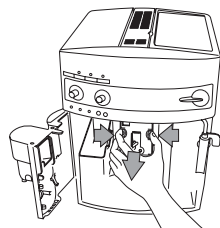

Figure 25
- Press the two red release buttons on the brewing system (Figure 25) and pull it out.